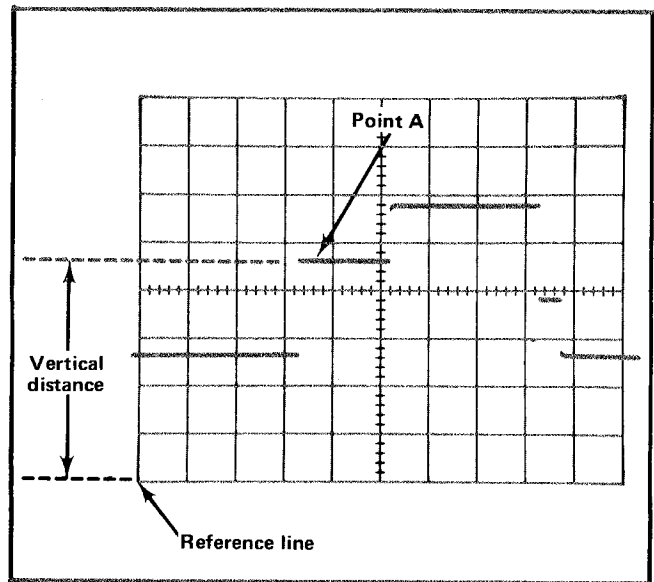

Fig. 2-2. Measuring instantaneous voltage with respect to same reference.
6. Measure the distance in divisions between the reference line and the point on the waveform at which the DC level is to be measured. For example, in Fig. 2-2 the measurement is between the reference line and point A.
EXAMPLE: Assume the vertical distance measured is 3.6 divisions (see Fig. 2-2) and the waveform is above the reference line, using a 10X probe with a VOLTS/DIV switch setting of 0.5 V.